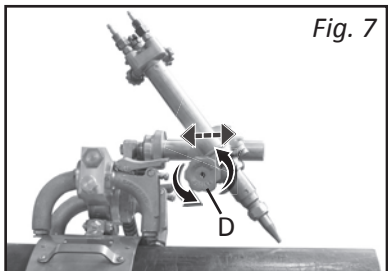

Fig. 7
- A. Loosen ring for position adjustment. (D, Fig. 7)
- B. Move assembly to desired position on Mounting Frame (A).
- C. Retighten ring. (D, Fig. 7)